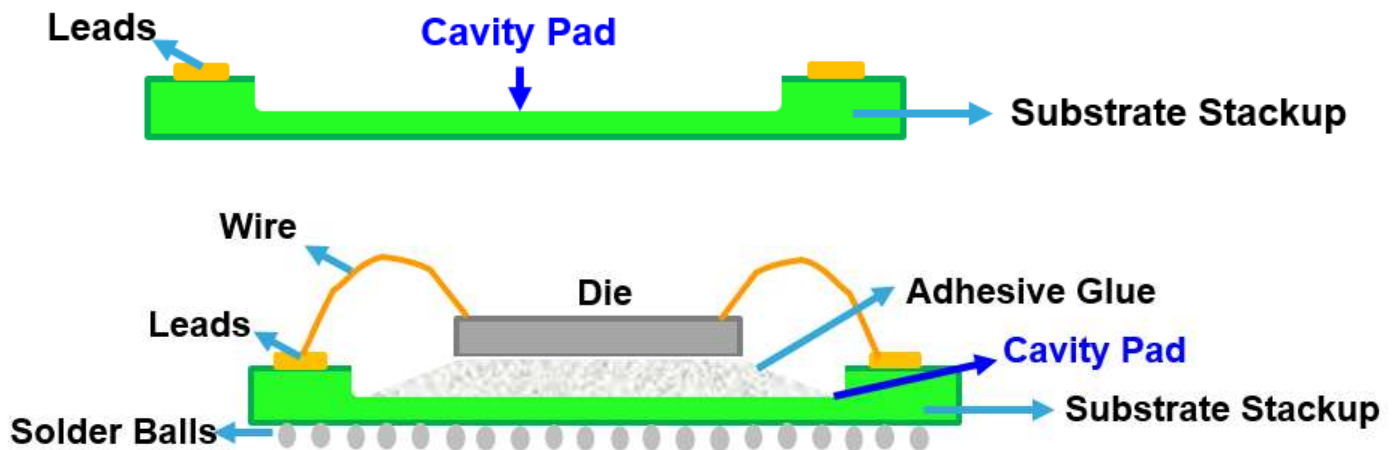

Fig. 3. Improved substrate-based IC package with the die attach cavity pad.
- The substrate IC package is augmented in Fig. 3 and improved to have a depth part or cavity pad for the die attach area particularly for the adhesive glue